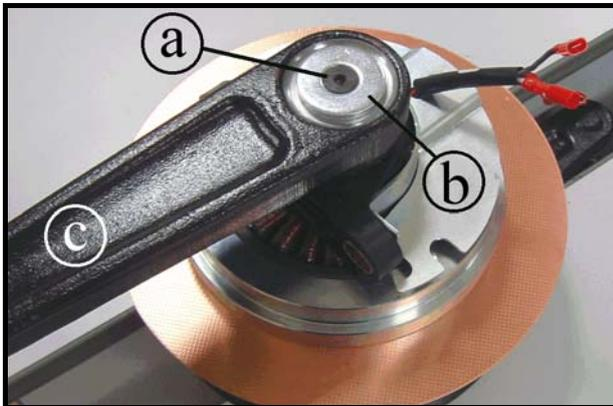

Figure 7.14-5
1. Take a look at Figure 7.14-5.